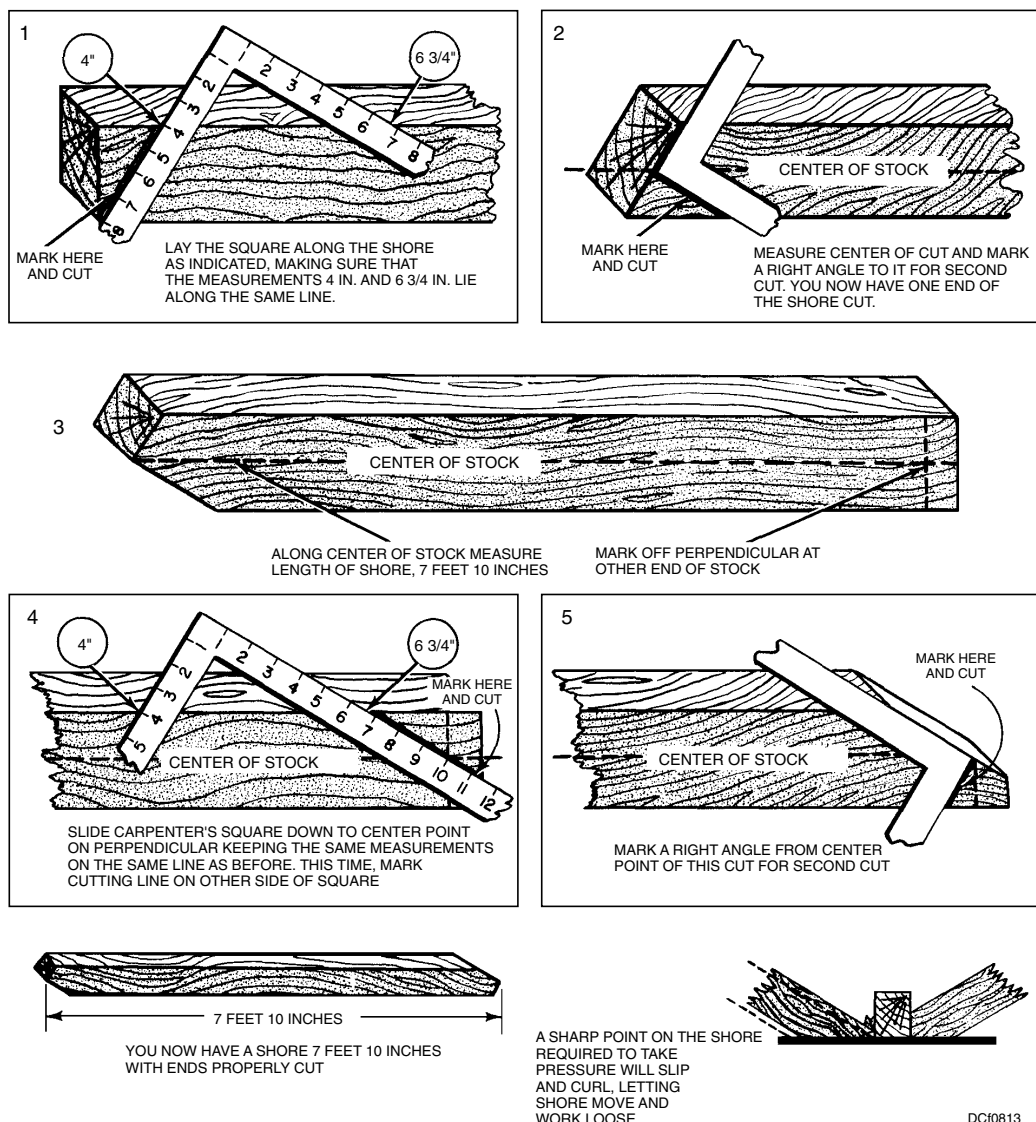

Figure 8-13. Cutting the angles of a shore.
Step 3. Measure the diagonal distance between A and B. In the example given in figure 8-13, this distance is 7 7/8 inches. Because of the 1-inch to 1-foot ratio, the distance in feet would be 7 7/8 feet or 7 feet 10 1/2 inches.
The carpenter's square may also be used to measure the angles of cut and to mark the shore for cutting (fig. 8-13). Using the same measurements as in the previous example, proceed as follows:
Step 1. Lay the square along the shore, as shown in part 1 of figure 8-13, making sure that the measurements 4 inches and 6 3/4 inches lie along the same line. Cut the shore to this line.